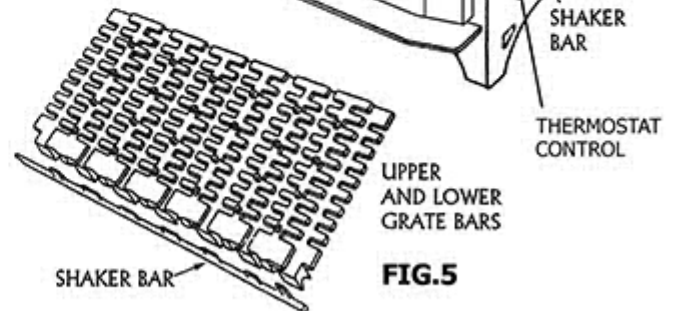

FIG.5
The shaker bar is already fitted, it should not normally be removed. (if it is to be removed see Para 3. also FIG. 5. AND 6.)
- A. Turn the shaker bar so that the projections are facing upwards, see FIG. 5.